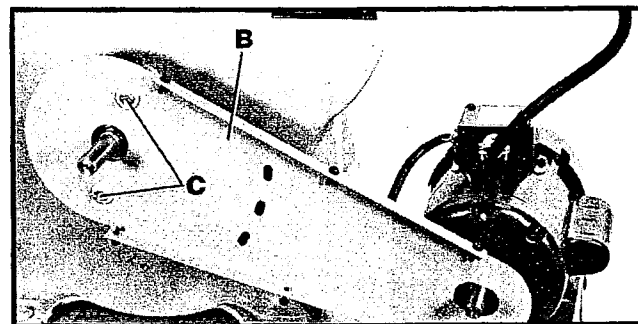

Fig. 10
2. Assemble the inside belt and pulley guard (B) Fig. 10, over the arbor and motor shafts as shown and fasten the guard to the machine using the two 1/2 inch-long hex head cap screws and flat washers (C). **NOTE:** Do not completely tighten the screws at this time.